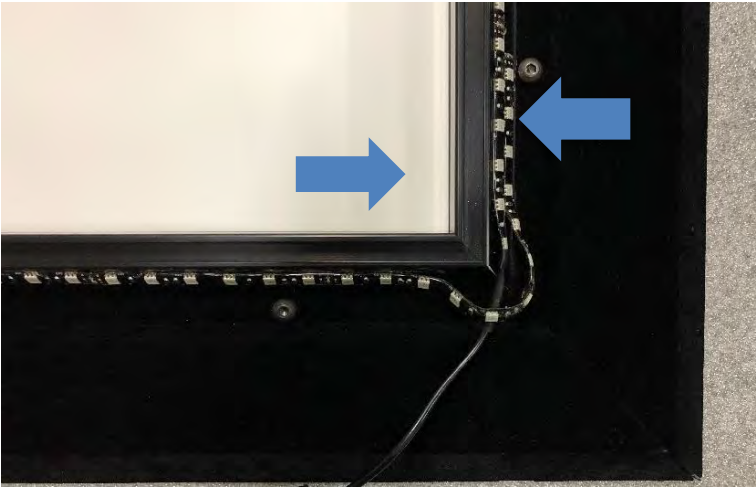

Figure 12: Place the LED on the rail
- 3. Position the LED along the rail. Make sure the adhesive side on the LED strip is positioned on the rail (Figure 12), and about 1/4 inches from the edge (see Figure 13).